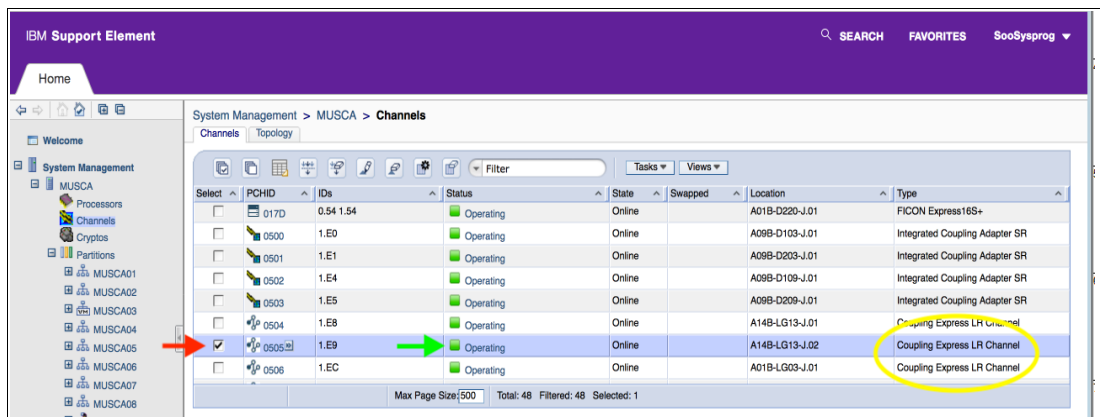

Figure 9-4 Verifying channel CL5 by using CEC view
- c. Look for the PCHID of which you are interested in checking the status. The result resembles the result that is shown in Figure 9-4.